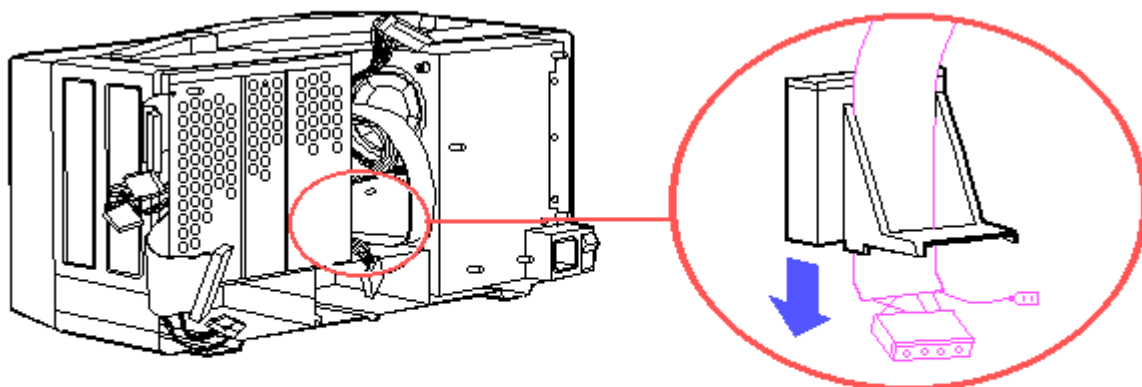

Figure 8-92. Removing the Display Data Cable Connector
12. Remove the display data cable connector from the plasma display controller board compartment (Figure 8-92).